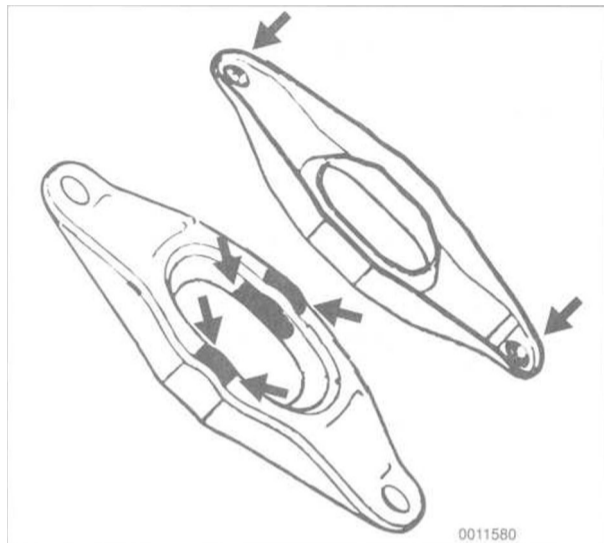

Fig. 7. Contact points on release lever to be greased (arrows)
12. Lightly grease release lever bearing contact points. See Fig. 7. Install release lever.